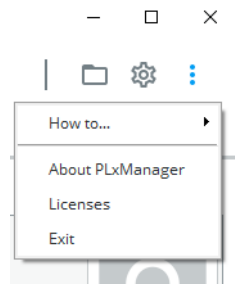

Figure 32: PLxManager user interface menu
4. Click on the **More options** button in the top right corner, see figure 32.